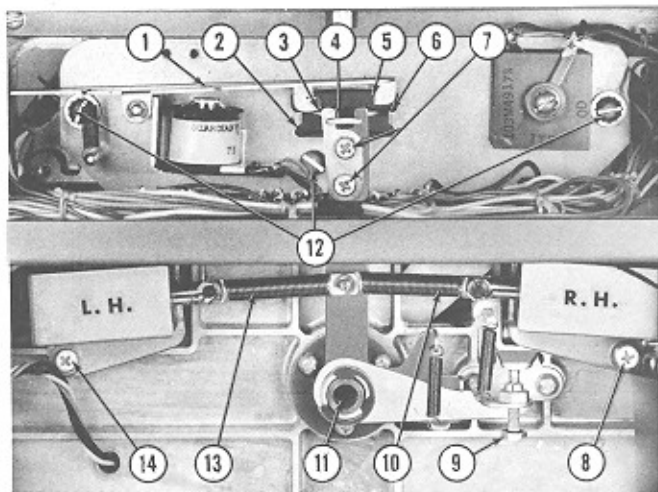
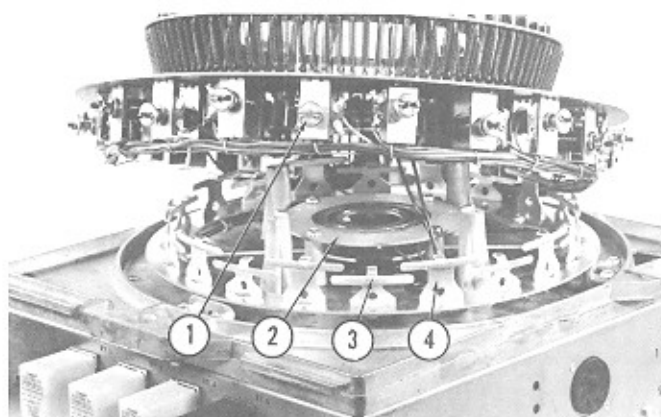

FIG. 23. ROTATING PLATE & ROCKER ARM ADJUSTMENT
FIG. 24. ELECTRIC SELECTOR ASSY. - 2810
To adjust the Rotating Plate and Rocker Arm alignment, remove the Electric Selector Assembly from the changer mechanism and remove the bottom cover. Stand the assembly on edge with the components in the position shown in Figure 23.
(1) The Guide Plate held by the Adjusting Screws (Fig. 23, Item 7) should be set to Zero clearance with the Stop Bracket (Item 4) on the Rotating Plate and Rocker Arm Assembly.
(2) The Adjusting Screw (Item 9) should
be set to align the tips of the twenty Rocker Arms (Fig. 24, Item 3) with ten Selector Pins number Three, A through K and ten Selector Pins number Eight, A through K. This is the normal rest position for the Rotating Plate and Rocker Arm Assembly. To check the alignment of the rocker arms with the other selector pins the following steps are suggested.
(a) Manually move the Rotating Plate and Rocker Arm Assembly to the extreme right hand stop position with the Stop Bracket (Fig. 23, Item 4) resting against the Stop Tab (Item 6). In this position the tips of the twenty rocker arms should be in alignment with ten selector pins number One, A through K and ten selector pins number Six, A through K. Should adjustment be required, the three Mounting Screws (Item 12) may be loosened and the Stop Magnet Mounting Plate moved to provide correct alignment.
(b) Manually hold the Rotating Plate and Rocker Arm Assembly in its extreme left hand position with the Stop Bracket (Fig. 23, Item 4) resting against the Stop Tab (Item 2). In this position the tips of the twenty rocker arms should be in alignment with ten selector pins number Five, A through K and ten selector pins number Zero, A through K. The Stop Coil Mounting Plate may be moved by loosening the three Screws (Item 12) to arrive at a satisfactory setting for both the right and left hand position.
(c) The right hand intermediate stop position should be checked by manually operating the Stop Magnet Armature (Item 1) and moving the Rotating Plate and Rocker Arm Assembly to position the Stop Bracket (Item 4) against the Stop Tab (Item 5) on the Armature. In this position the tips of the twenty Rocker Arms (Fig. 24, Item 3) should be in alignment with ten selector pins number Two, A through K, and ten selector pins number Seven, A through K. Adjustment is accomplished by forming the Stop Tab (Fig. 23, Item 5) on the Armature.
(d) The left hand intermediate stop position should be checked in the same manner as for the right hand stop. The Stop Bracket (Fig. 23, Item 4) should be manually held against the Stop Tab (Item 3) on the Stop Magnet Armature. In this position the tips of twenty Rocker Arms (Fig. 24, Item 3) should be in alignment with the ten selector pins number Four, A through K, and ten selector pins number Nine, A through K. The Stop Tab (Fig. 23, Item 3) may be formed should adjustment be required.
(1) The two Driver Solenoids shown in Figure 23 labeled L.H. and R.H. serve to turn the
Rotating Plate and Rocker Arm Assembly to position the tips of the Rocker Arms at the correct Selector Pin as determined by the number button selected. To check the adjustment, manually hold the R.H. Driver Solenoid Plunger bottomed in the Solenoid. The coupling spring of the Plug and Spring Assembly (Fig. 23, Item 10) should stretch $1/16''$ while the Stop Bracket (Item 4) on the Rotating Plate and Rocker Arm Assembly is held firmly against the extreme Right Hand Stop (Item 6). Adjustment may be accomplished by loosening two screws in the Solenoid Mounting Bracket, one of which is shown at Item 8. It is important to maintain the straight-in-line position between the Solenoid and Plunger and there must be no bind on the Rotating Plate or its operating linkage.